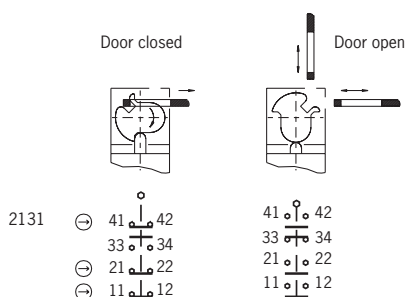

Fig. 2: Switching elements and switching functions
At least one contact ⊕ must be used. This signals the position of the guard (for terminal assignment, see Fig. 2).
2. Connect and tighten terminals with 0.5 Nm (for terminal assignment, see Fig. 2).